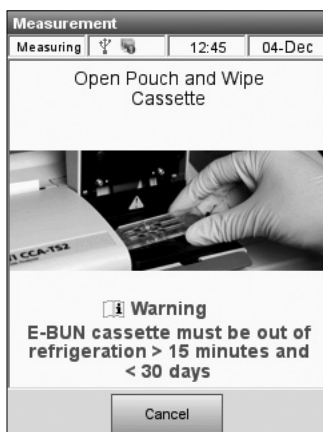

Fig. 5-13 E-BUN Open Pouch
- Open the OPTI Sensor Cassette pouch and remove the cassette (Fig. 5-13). After opening the pouch, proceed with the following steps immediately.
- Insert the cassette into the chamber. Press down to ensure that the cassette is seated properly (Fig. 5-13).